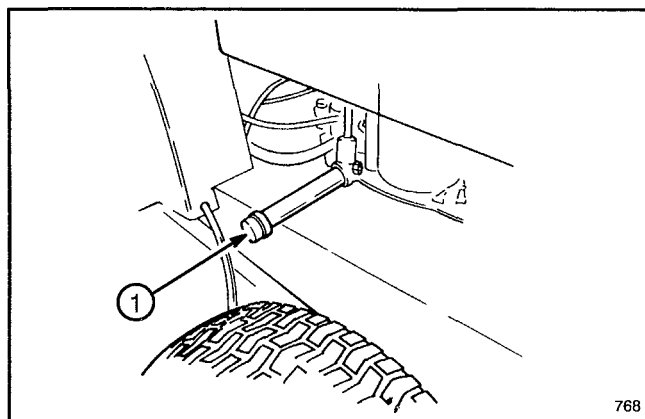

Figure 15
- B. Turn engine off and place drain pan below drain plug (Fig. 15). Remove drain cap. Allow all oil to flow into drain pan. Reinstall drain cap after oil stops flowing.